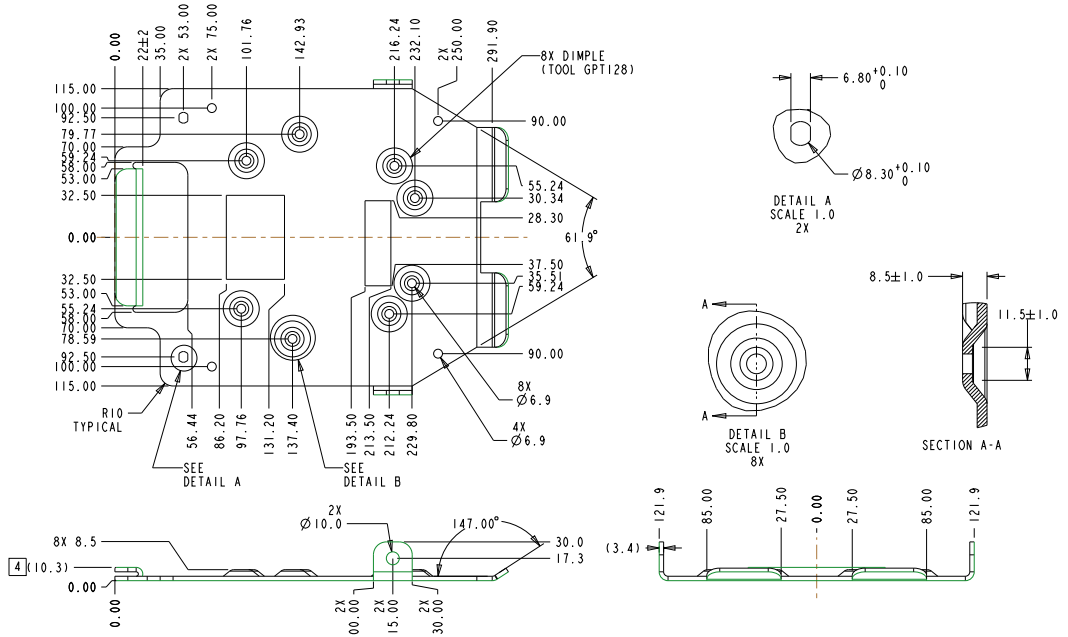

Figure 4: SMART-MR10 Universal Mounting Plate (70023085)
- Universal mounting plate (NovAtel part number 70023085), shown in Figure 4 on page 25.